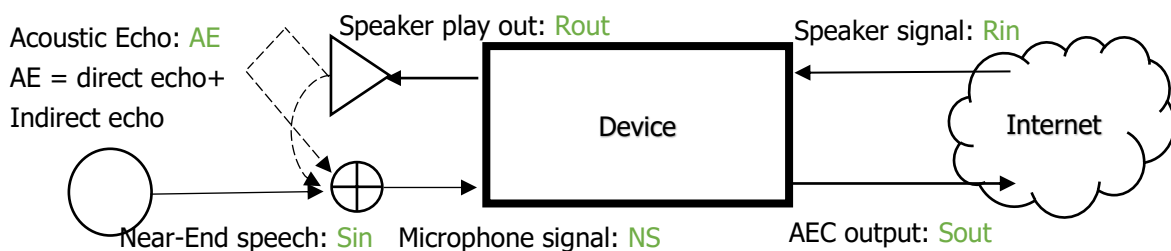

Figure 2: Relationship between the input signal and the output signal
The signal recorded from a microphone, refers to the Near-End signal. It may mix the acoustic echo (AE) and the signal of the talker (NS). See Figure 2
The source signal of a speaker, refers to the Far-End signal. It may come from the audio file (smart speaker plays out music) or Internet (someone talks from other device). See Figure 2
Play some audio or speech from the speaker only (i.e., $Sin = AE + NS$, where $NS = 0$). See Figure 2
Play some audio or speech from the speaker and someone talks in front of the microphone (i.e., $Sin = AE + NS$, where $NS \neq 0$). See Figure 2